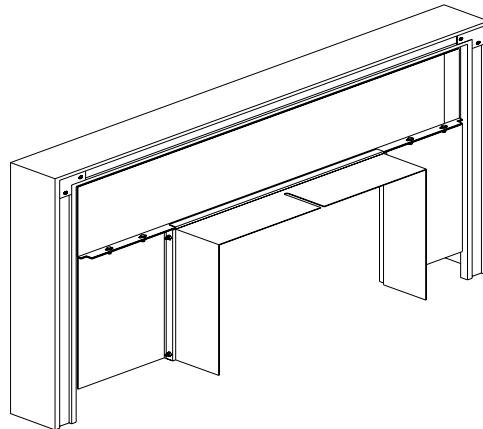

Figure 4
- Line up the holes by pushing the sides out and install (smooth heads inside) all the bolts loosely. Line up the edge of the faceplate top and side, tighten the two bolts joining them, and then tighten the side bolts. Tighten the bolts on the other side in the same manner (see Figure 4).